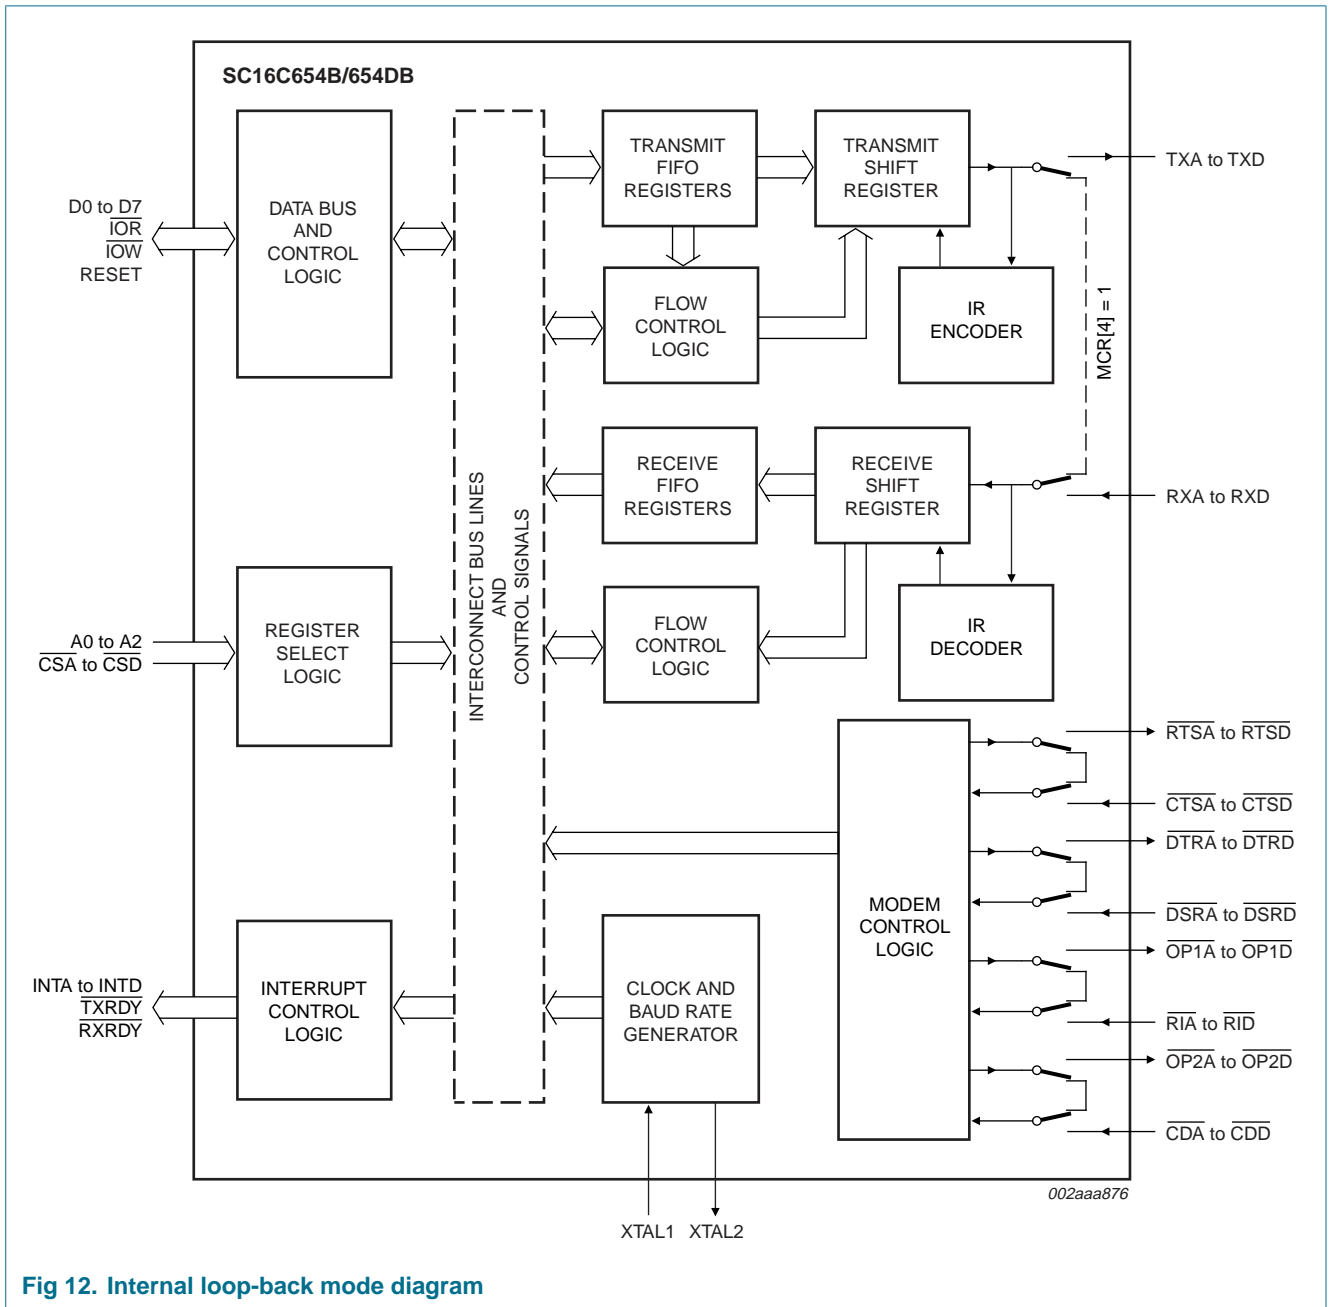

Fig 12. Internal loop-back mode diagram
The internal loop-back capability allows on-board diagnostics. In the loop-back mode, the normal modem interface pins are disconnected and reconfigured for loop-back internally. MCR[0:3] register bits are used for controlling loop-back diagnostic testing. In the loop-back mode, OP1 and OP2 in the MCR register (bits 2:3) control the modem  $\overline{RI}$  and  $\overline{CD}$  inputs, respectively. MCR signals  $\overline{DTR}$  and  $\overline{RTS}$  (bits 0:1) are used to control the modem  $\overline{DSR}$  and  $\overline{CTS}$  inputs, respectively. The transmitter output (TX) and the receiver input (RX) are disconnected from their associated interface pins, and instead are connected together internally; see Figure 12. The  $\overline{CTS}$ ,  $\overline{DSR}$ ,  $\overline{CD}$ , and  $\overline{RI}$  are disconnected from their normal modem control input pins, and instead are connected internally to  $\overline{RTS}$ ,  $\overline{DTR}$ , OP2 and OP1. Loop-back test data is entered into the transmit holding register via the user data bus interface, D[0:7]. The transmit UART serializes the data and passes the serial data to the receive UART via the internal loop-back connection. The receive UART converts the serial data back into parallel data that is then made available at the user data interface D[0:7]. The user optionally compares the received data to the initial transmitted data for verifying error-free operation of the UART TX/RX circuits.